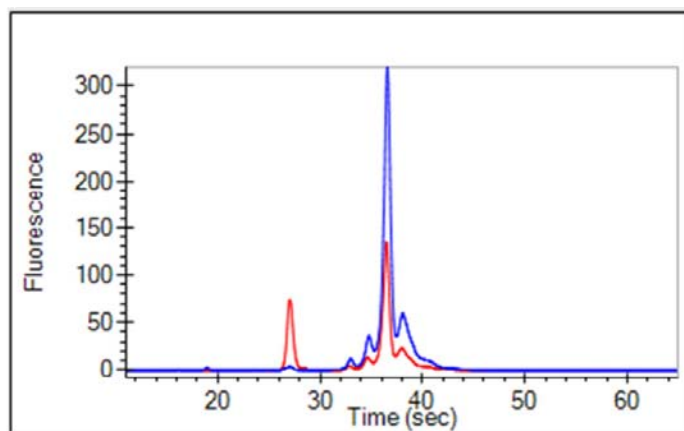

Figure 18. Dye Solution Comparison
- 1 The Dye solution may have been left at room temperature for too long. The Dye solution should be used immediately (begin dispensing within 5 minutes of mixing with N,N-dimethylformamide). Extended incubation of the Dye solution at room temperature will degrade the dye and decrease the amount of dye that can label the sample. Figure 18 shows a sample where the dye solution was used immediately (blue trace) and a sample where the dye solution was older (red trace). When the Dye solution is used immediately, the dye peak is shorter and the mAb peaks are taller (blue trace).